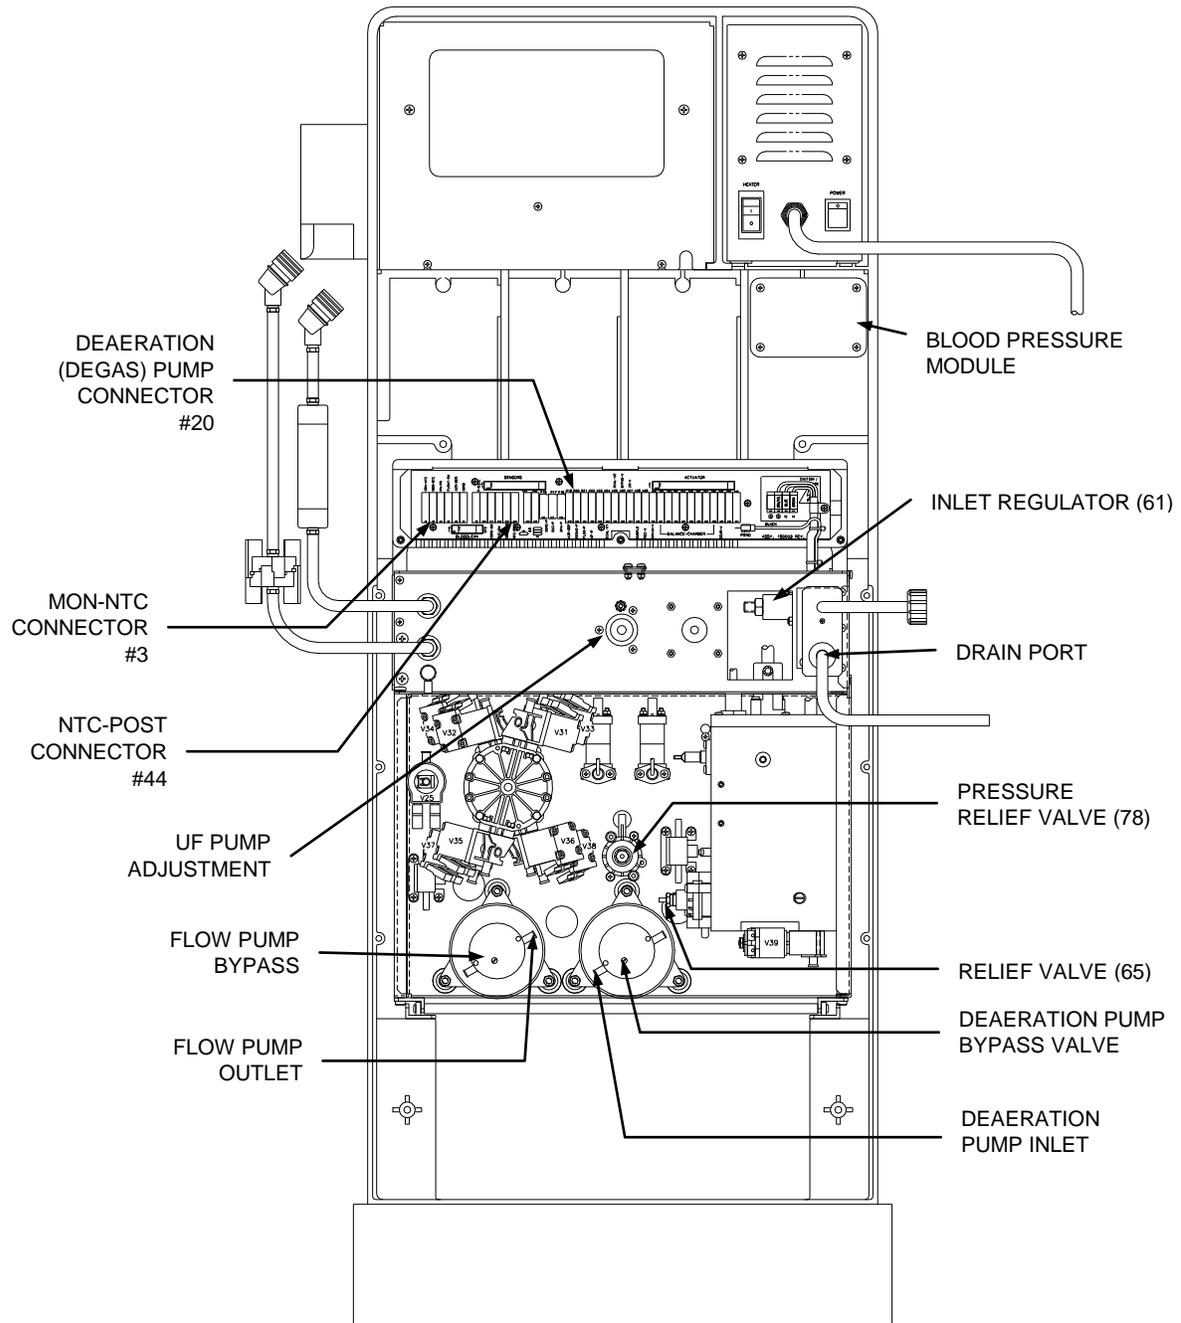

Figure 1 - 2008K Rear View
1. Connect a gauge in line at the inlet side of the deaeration pump (See Figure 1, pg. 5).